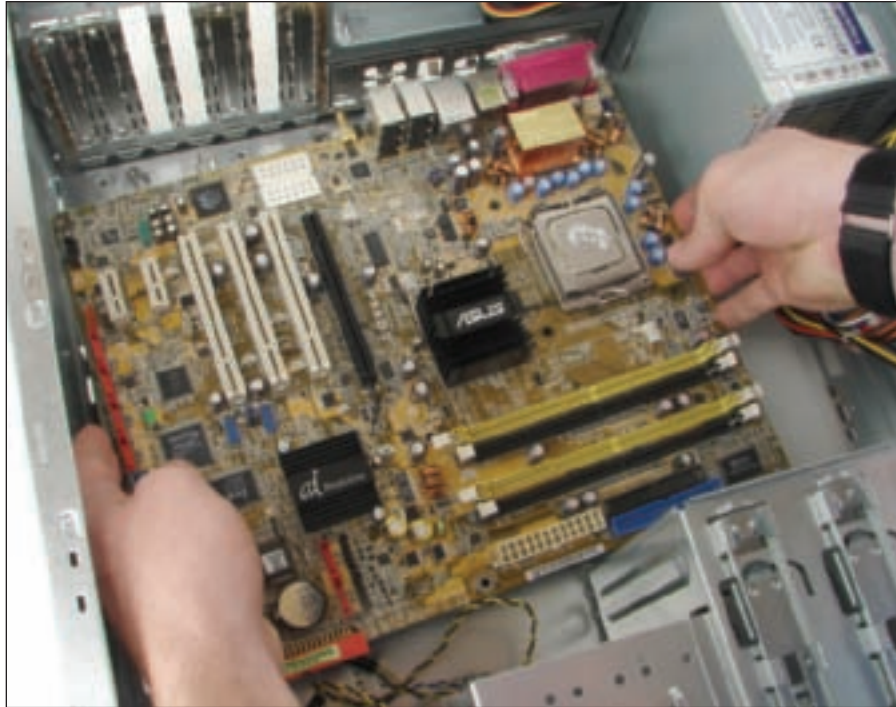
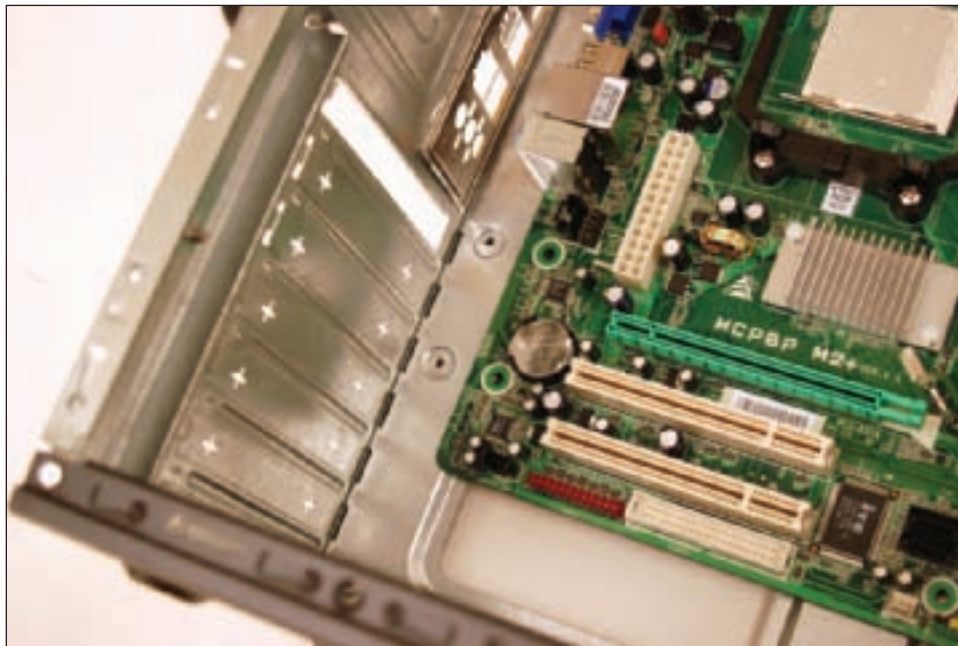

Figure 5-46 Place the motherboard in the case
Figure 5-47 Align screw holes in the case with those on the motherboard
3. Place the motherboard inside the case (see Figure 5-46), and use screws to attach it to the case. Figure 5-47 shows how you must align the screw holes on the motherboard with those in the case. There should be at least six screw sets, and there might be as many as nine. Use as many as there are holes in the motherboard. Figure 5-48 shows one screw being put in place.